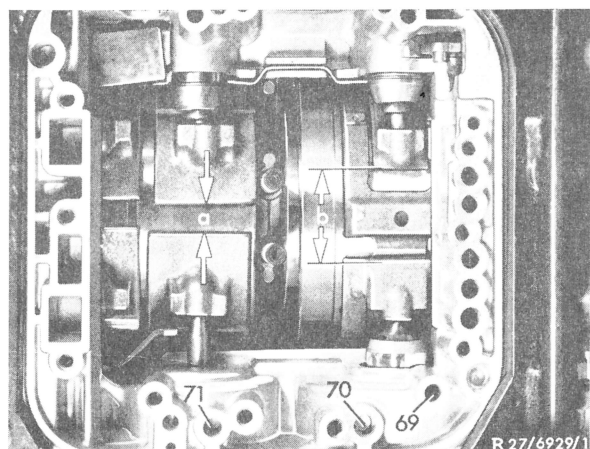

Fig. 70
**94** Measure idle travel of brake band piston B 1 and B 2. For this purpose, move brake band piston B 2 by means of compressed air via bore for lifting pressure (69) into lifting position and determine dimension "b". Then move brake band piston with compressed air via bore for control pressure B 2 (70) into shift position (Fig. 70), while again determining dimension "b". The difference of the two measurements provides the idle travel "L".
Under the influence of the compression spring(s), the brake band piston B 1 is now in lifting position. Determine dimension "a" when in this position. Then move brake band piston with compressed air via bore for control pressure B 1 (71) into shift position (Fig. 70), while again determining dimension "a". The difference of the two measurements provides the idle travel "L".